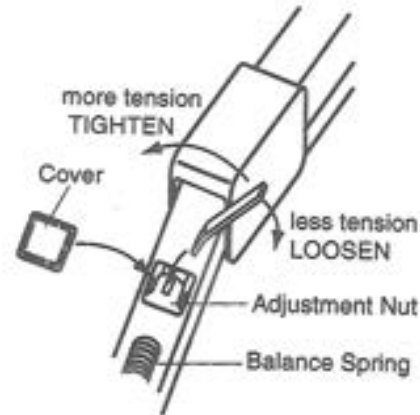

FIGURE 5
6. If either balance arm drifts either higher or lower from the set position, remove the spring adjustment covers and with the supplied wrench adjust the tension balance arm assemblies. (FIGURE 5)